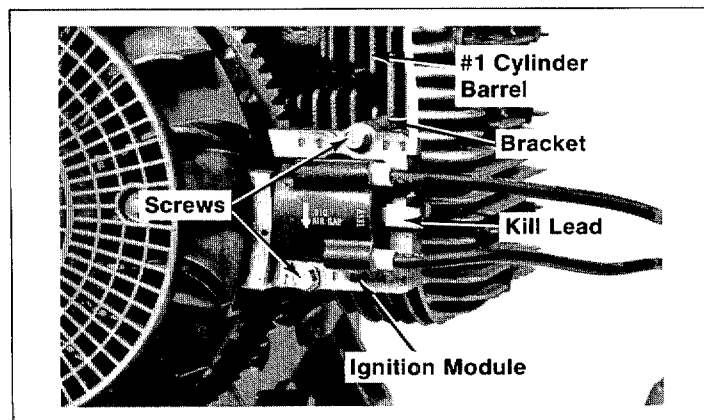

Figure 26. Removing Ignition Module
2. Remove the kill lead from kill terminal of module. Refer to Figure 26.